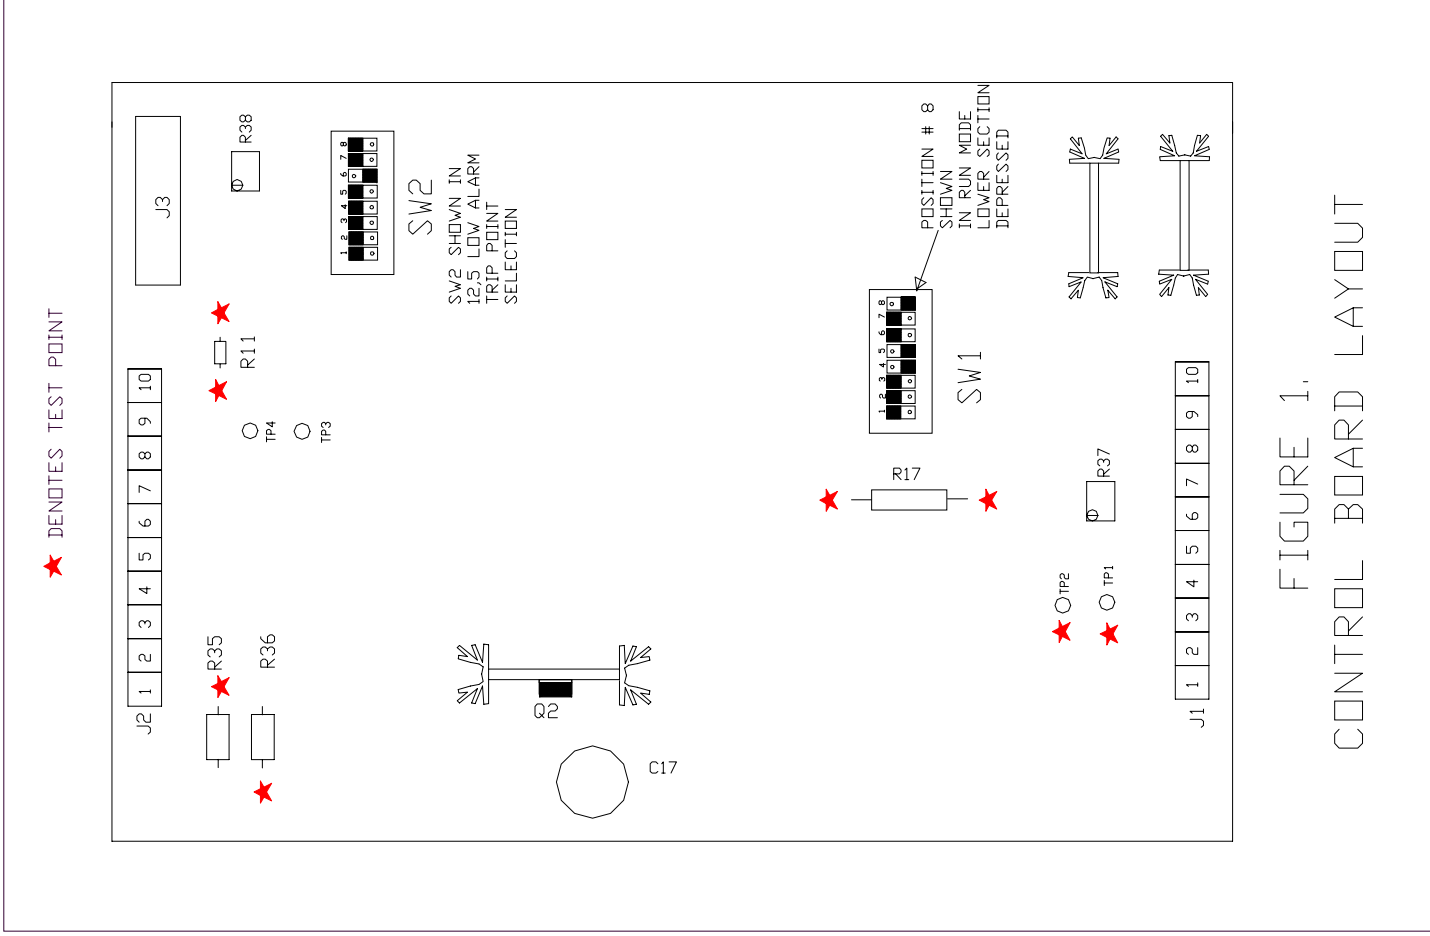
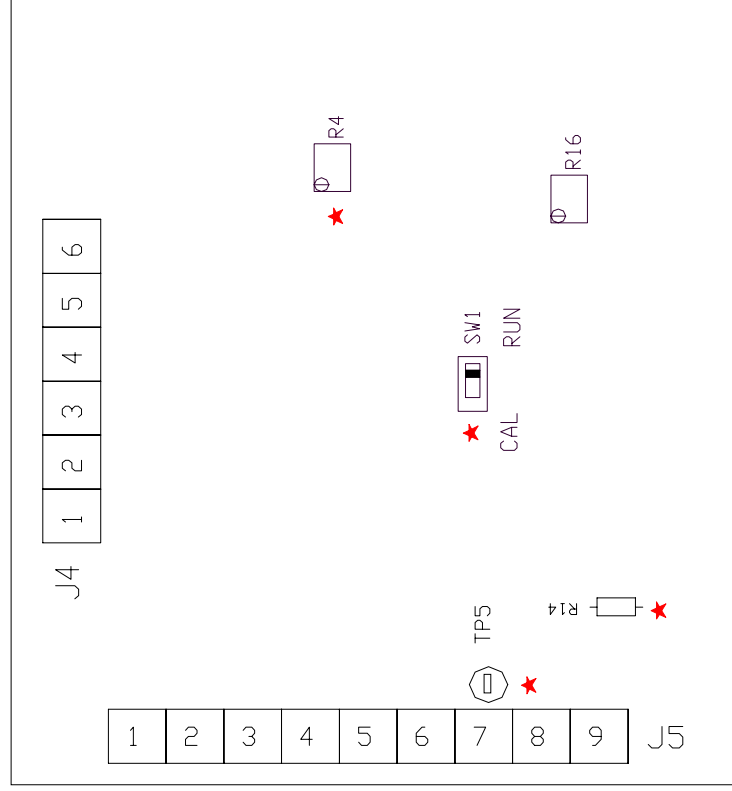
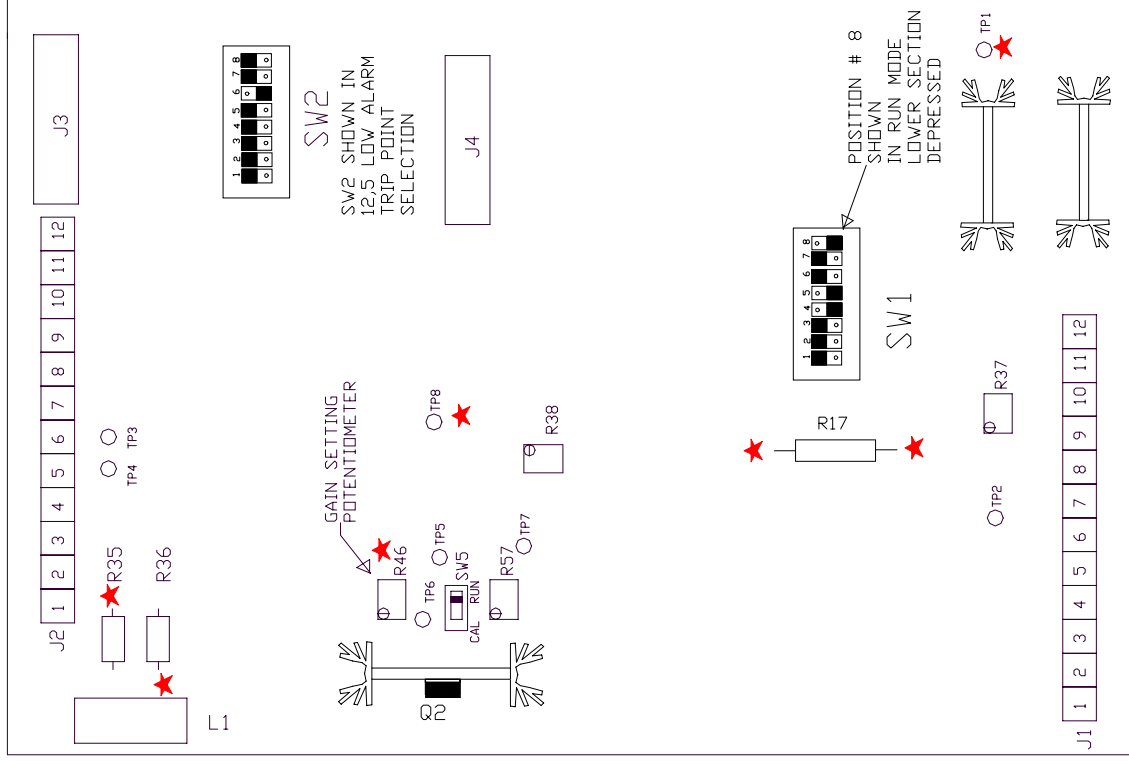

FIGURE 1.
FIGURE 2
FIGURE 3.
Check to see if the unit under test is a single board unit with only a control board or a unit with two boards, the control board and the bridge board which is a smaller board mounted to the right of the control board. (Note: The below listed voltages will be taken from different test points for the two different style units.) Figures 1 through 3 of this document will help to identify the test points and adjustment.
1. With the fuse on the left side of the units outer wall removed place unit into test mode by depressing the top section of SW 1 Position 8 which is located approximately 2/3 of the distance from the top to the bottom of the control board and about 1.5 " from the right side of the board. Position 8 is the switch located to the far right on the DIP type 8 position switch. (See figures 1 or 3). The run / cal switch is located next to the large black heat sink on the left side of the circuit board three inches from the top will be in the right position or run position for units that are single board configuration. (See figure 3). For units that are a two board configuration the run / cal switch is located in the center of the smaller bridge board located to the right of the control board and will also be switched to the right position (RUN). (See figure 2)
1. The first check is to measure the DC voltage drop from the right side of R35 to the left side of R36 .The two Resistors are located in the upper left corner of the control board. The DC voltage drop between these two points should be approximately 0.350 volts DC and should be present if the sensor is hot. This step should be performed on units with single board configuration and units with both the control board and the bridgeboard.(See figures 1 AND 3)
- A. Measure the DC voltage drop from TP 1, located at the bottom right corner of the control board at the right of the two black heat sinks, to TP 8 that is located approximately 1.5 inch above the center mounting screw on the circuit board.(See figure 3) This voltage drop has to be greater than 0.030 VDC but less than .100 VDC at ambient atmosphere with no chlorine base chemicals in the atmosphere. The chemicals included are any solvents that are chlorine based, any cleaners that are chlorine based and refrigerant gases.
- B. To test this Voltage Drop on units with both the control board and the bridgeboard, the measurement is taken by measuring the DC Voltage drop across R11. R11 is located approximately ½ inch from the top edge of the circuit board and about 1 ½ inch from the left edge of the board.(See figure 1)
3. If the two above voltage drops do not fall into this range, they will need to be adjusted to within limits. On units with single board configuration, while monitoring the DC voltage drop from TP 1 to TP 8 adjust potentiometer R46 located to the right of the large black heat sink located approximately two inches below R35 and R36 to approximately 0.050 VDC.(See figure 3) On units with both the bridgeboard and the control board this adjustment is accomplished by measuring the voltage drop across R11 on the control board and while measuring adjust R4 on the bridgeboard (Smaller board) to approximately 0.050 VDC.(See figures 1 and 2) After this adjustment, measure the DC voltage drop again from the right side of R35 to the left side of R36. This voltage drop must fall between 0.320 VDC and 0.400 VDC.
6. The next step is to put the unit back into the run mode. This is accomplished by depressing the bottom section of SW1 position 8. After waiting approximately 3 minutes rerun the test involved in step 5 to check and see that the unit goes into alarm.(See figure 1 or 3)